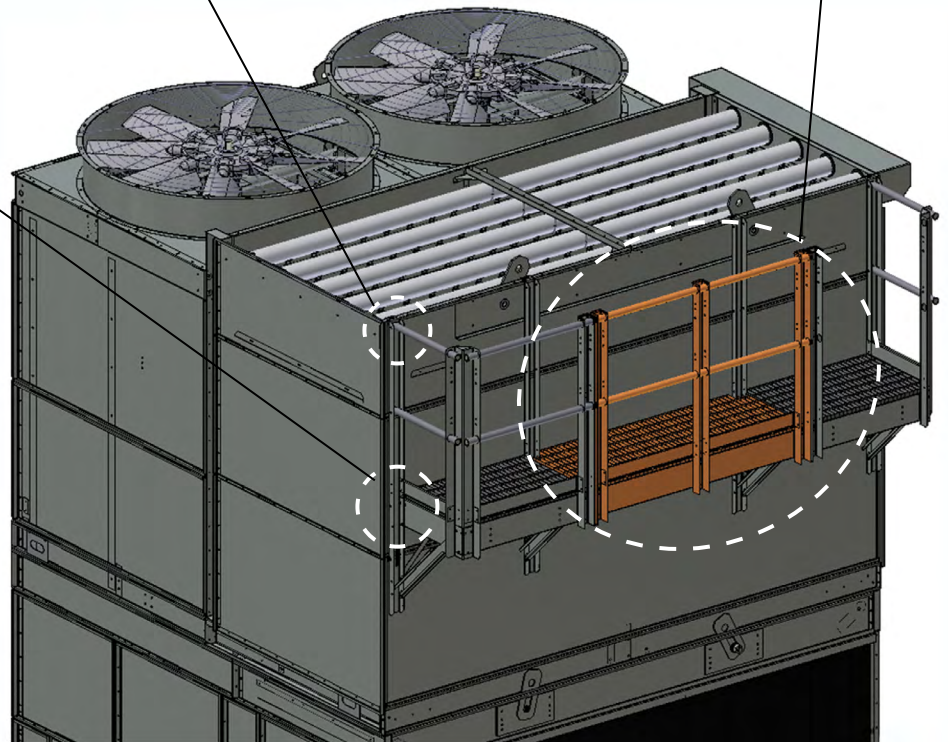

Figure 26. External Service Platform Assembly for 8' x 12' and 12' x 12' Units
3. If applicable, lift drop-in platform section(s) between mounted hang-on modules, and lower into position so that it rests on support channels. Bolt platform and railings into place using 3/8" x 1 1/4" bolts. See **Detail C (Figures 26 and 27)**.